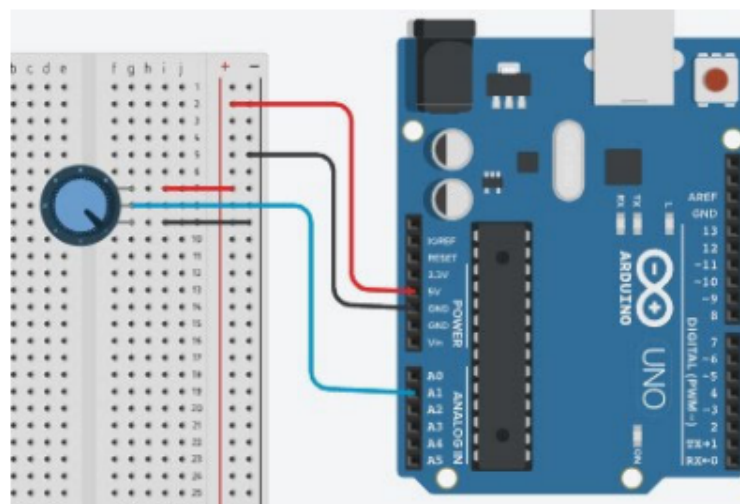

Figure 6.1: Circuit Setup Arduino to Potentiometer
2. Connect pin A1 to the middle pin of the potentiometer. (Figure 6.1)